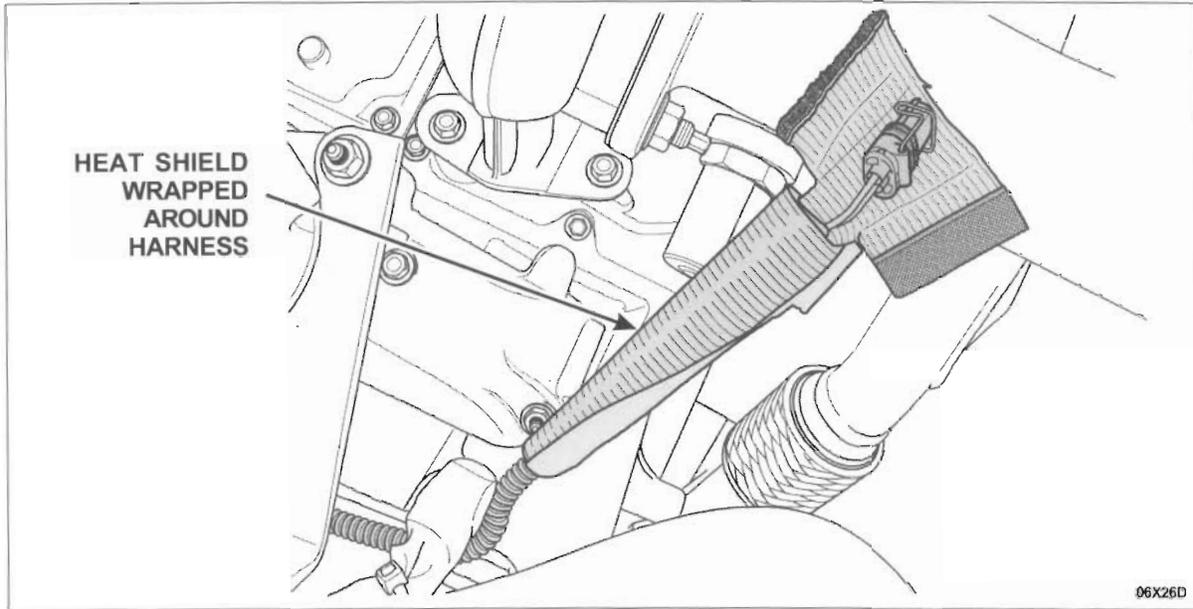

FIGURE 4
- e) Position the **new** heat shield so the IPR harness is even with the adhesive strip on the long section of the shield and the end of the connector is flush with the end of the short section of the shield. See Figure 4.
- f) Fold and crease the heat shield around the harness, then remove the adhesive backing and adhere the shield to itself. See Figure 4.
- a) Position the **new** heat shield so the IPR harness is even with the adhesive strip on the long section of the shield and the end of the connector is flush with the end of the short section of the shield. See Figure 4.
- b) Fold and crease the heat shield around the harness, then remove the adhesive backing and adhere the shield to itself. See Figure 4.